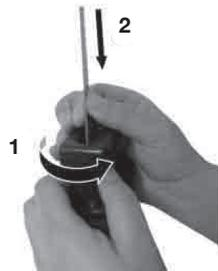

Fig. 2
- Rotate the chuck (3) counterclockwise to open it. Hold it in the open position (Fig.2).
- Insert the selected saw blade (1) firmly into the chuck. Be sure the blade is fully inserted (Fig.2).